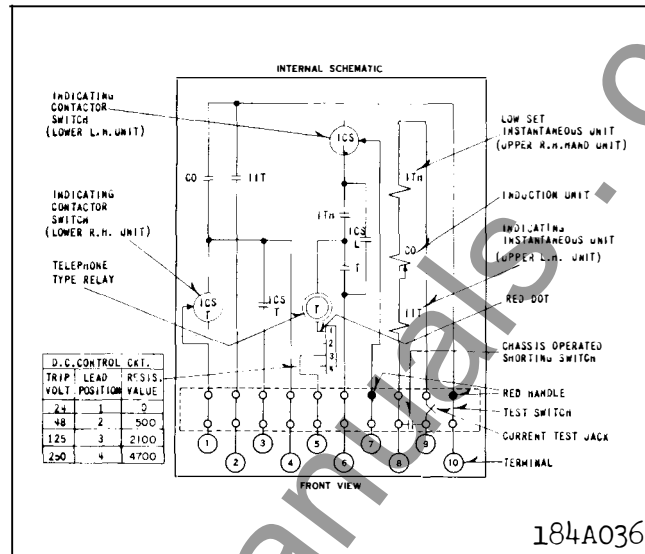

Fig. 17. Internal Schematic of the Type COM Relay with Auxiliary Time-Delay Unit and ITH Unit, in FT21 Case. (For S#289B456A – Series of COM-5 Relays).
7. Auxiliary Time-Delay Unit (T) - For relays wired per Fig. 17 or 18, apply 100 volts d-c to terminals 5 and 7. Manually close the contacts of the ITH or IT unit in the top right-hand corner of the relay. The T unit should operate.